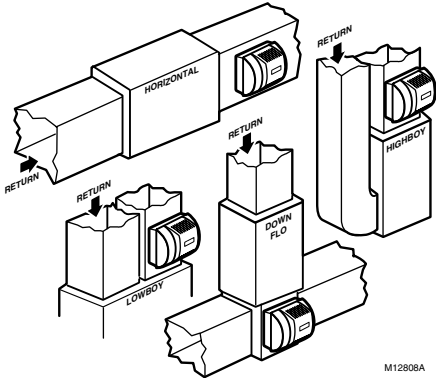

Fig. 1. Typical humidifier installation locations.
- Select a location for the humidifier on the supply (warm air stream) plenum. See Fig. 1.